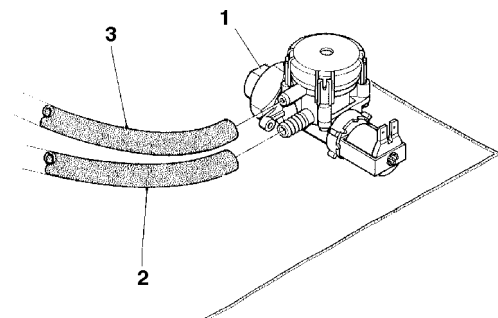

Fig. 10
Use a hose (also available as a kit) capable of withstanding the water mains pressure and suitable for use with food-stuff (min. inside diameter of 6 mm) to connect the water supply to the union (3/4" gas) of the water inlet solenoid valve (see Fig. 10).
The water inlet solenoid valve (see Fig. 10) is equipped with an overflow device mechanically preventing the water from flowing in if there is a malfunction in the solenoid valve itself or in the control device of the boiler water level.
- loosen the union which secures the solenoid valve supply tube to relieve the water mains residual pressure and then tighten again (see Fig. 10);